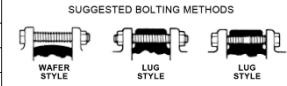

FIGURE 4
2. Line up, center and secure the valve between flanges using desired bolts or studs (see *Figure 4*) as listed in **Table 4**. Do not tighten bolts at this time.